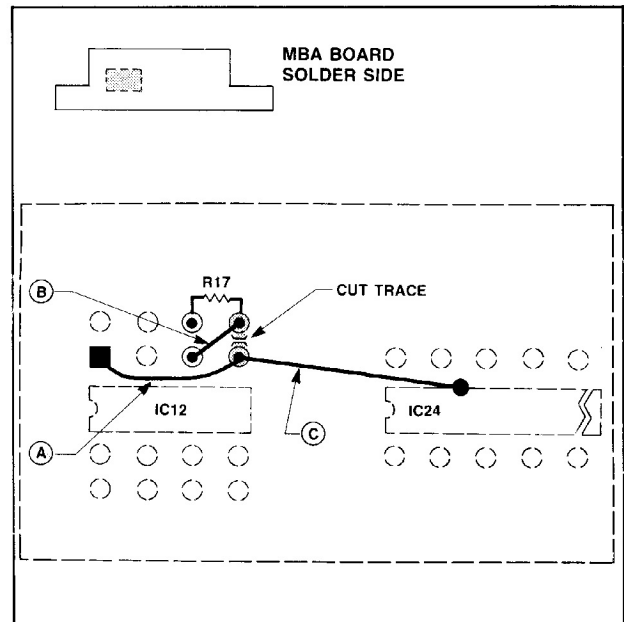

Figure 3
**Solder Side (See Figure 3.)**